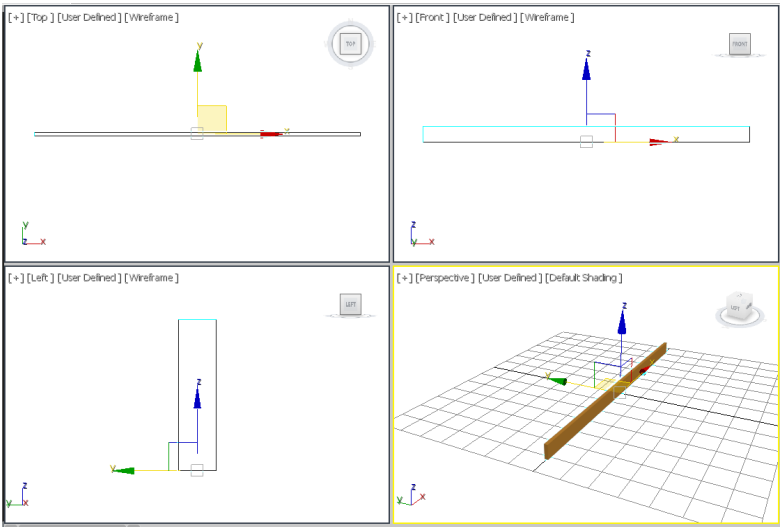

Figure 2-68 A box created
3. Choose the **Create** button from the **Keyboard Entry** rollout; a box is created in the viewports, refer to Figure 2-68.